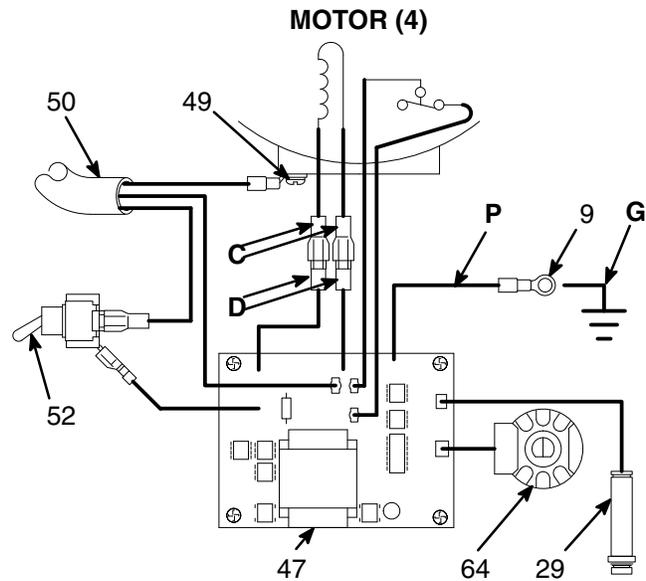

Fig. 13
Remove the screws (56,75). Lower the control board (47). Disconnect the two leads (C) from the motor to the board. See Fig. 13.
Connect the two black motor leads (C) together with a test lead. Turn the motor fan by hand at about two revolutions per second. See Fig. 13.